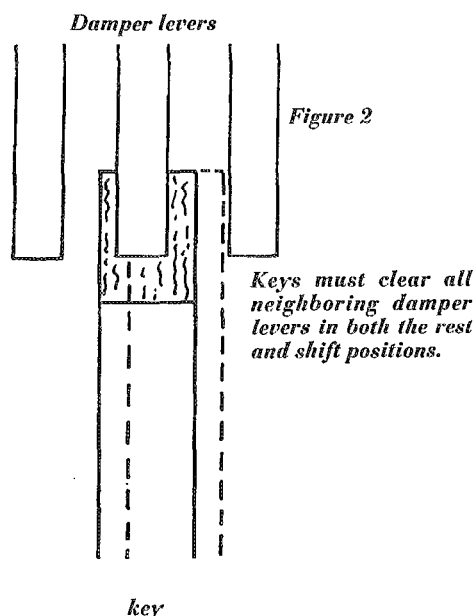

Figure 2
2) The damper lift felts on the keys must not interfere with the damper levers of adjacent keys. In their unshifted position, the keys cannot be located so far toward the bass that they engage neighboring damper levers to the left. Likewise, they cannot move so far toward the treble in the shifted position that they engage neighboring damper levers to the right. See Figure 2. However, damper lever-to-key alignment is also affected by the side-to-side